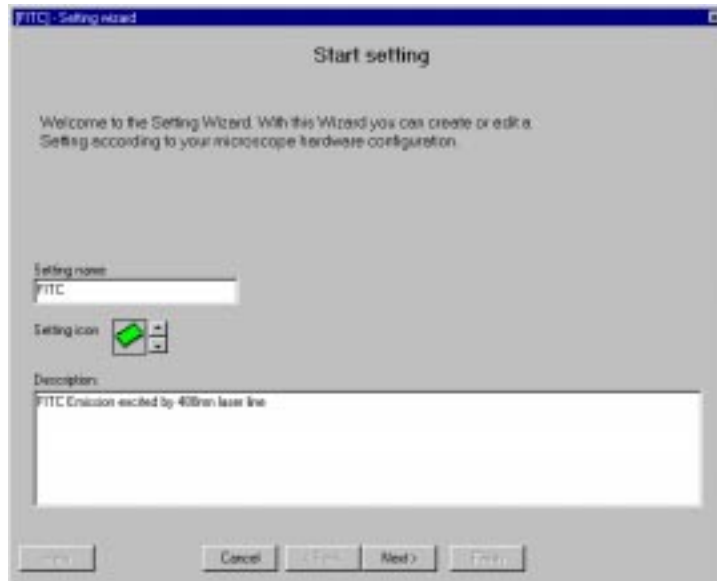

Figure 14 Start setting window (sequential)
1. In the 'Start setting' window, Fig. 14, enter a name ("FITC", "TRITC" or "Cy5" in this case) for the Sequential Setting.